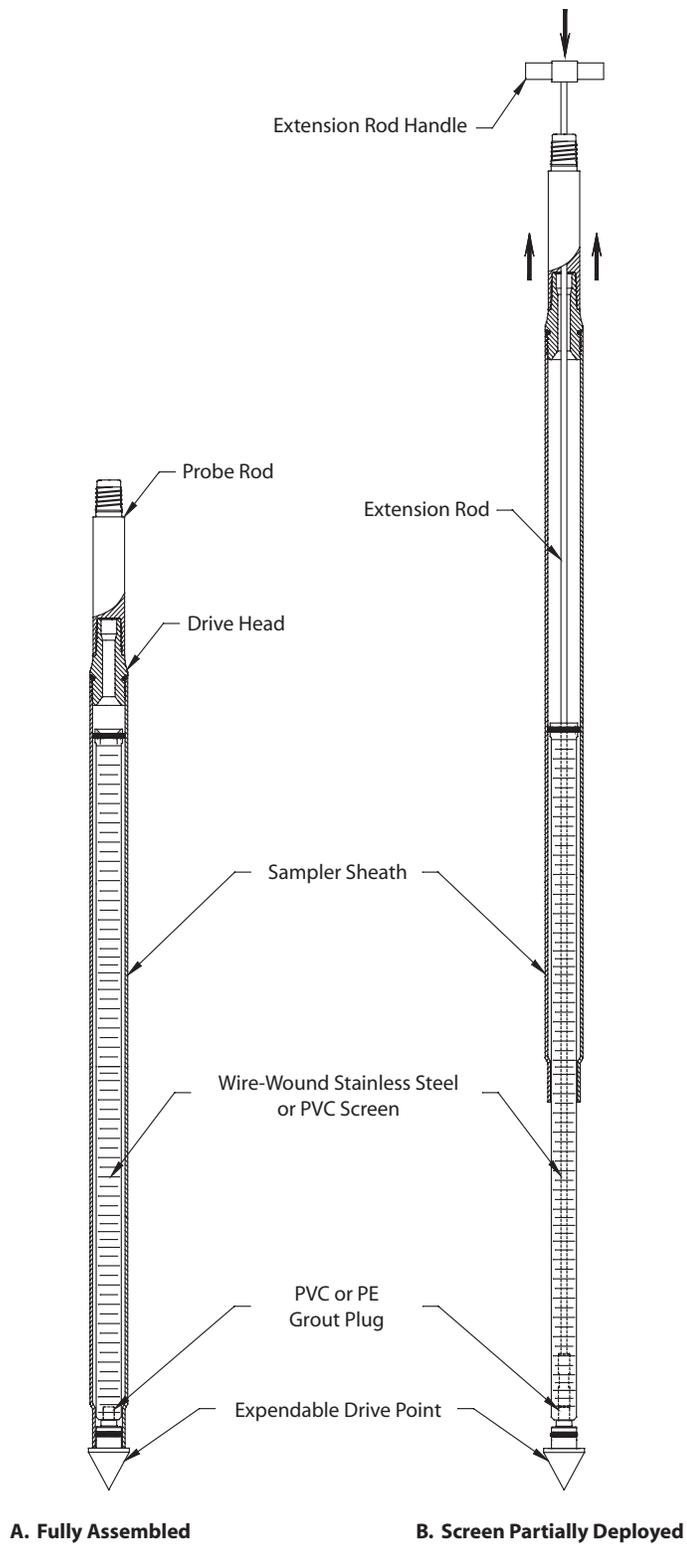

FIGURE 2.1
1. Begin by placing the assembled sampler (Fig. 2.1.A) in the driving position beneath the hydraulic hammer of the direct push machine as shown in Figure 4.2.